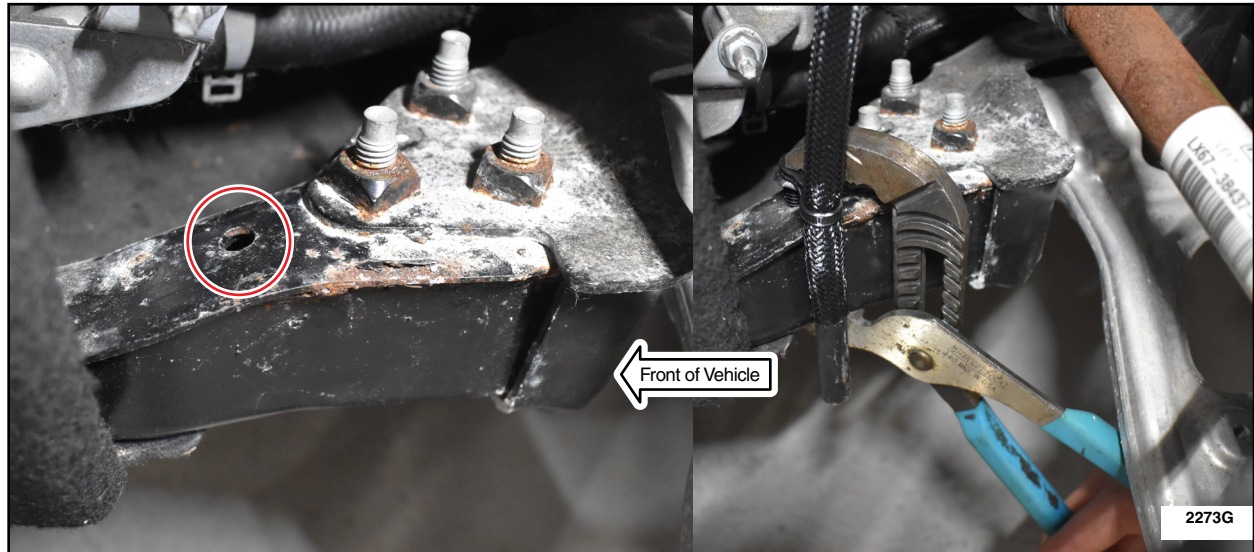

FIGURE 10
13. Attach hose to subframe. Position fir tree fastener and push in as far as possible. If needed you can use groove joint pliers to secure fir tree fastener fully into the hole in the subframe. See Figure 10.